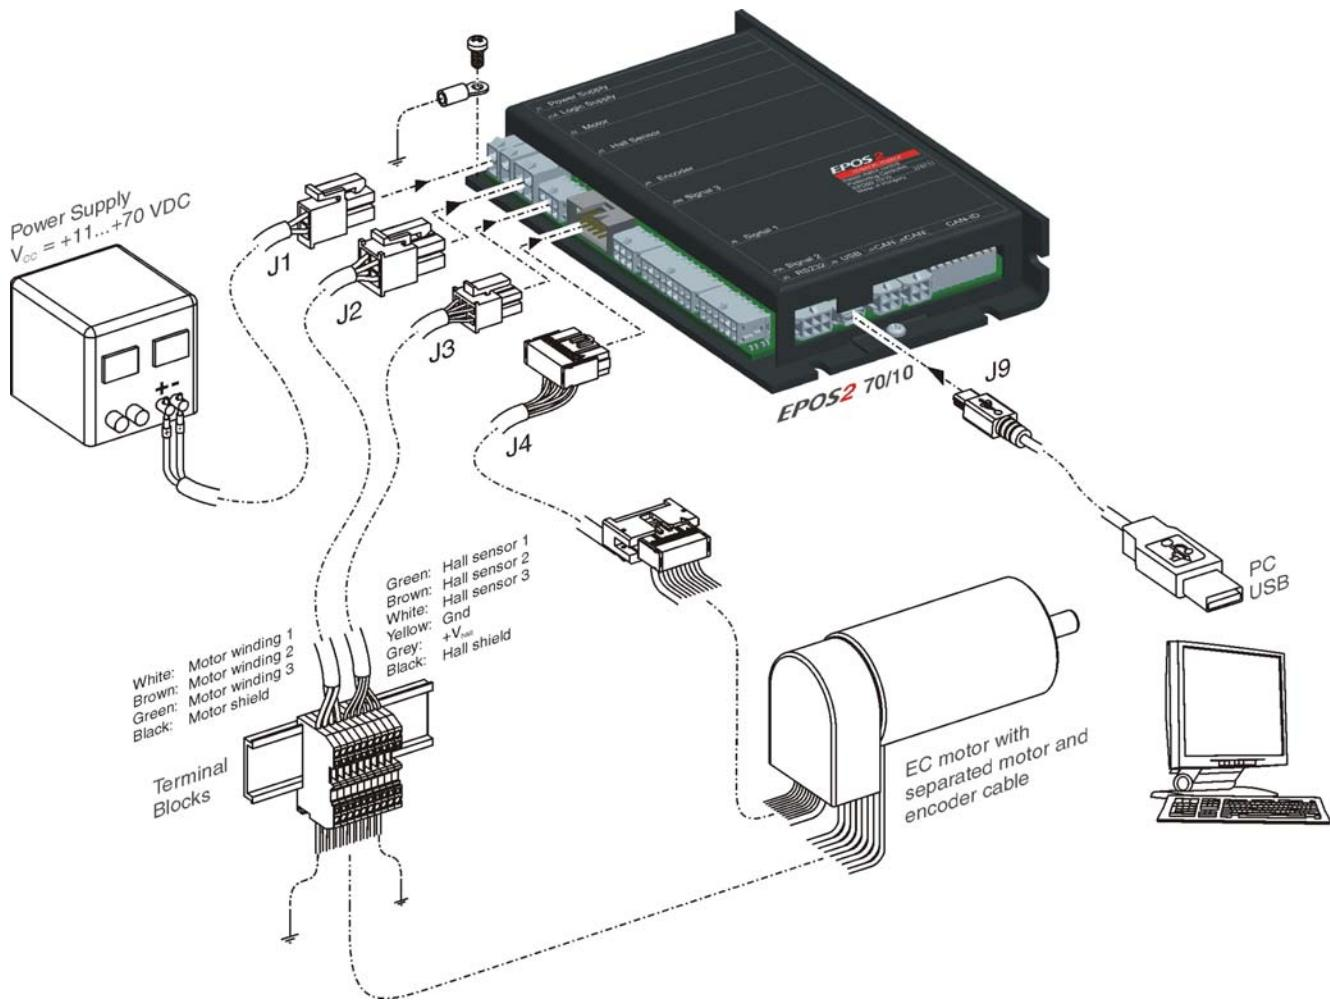

Figure 3-2 Minimum Wiring: maxon EC motor
- 2) Connect maxon cable assemblies (→Table 3-4 and Figure 3-2).